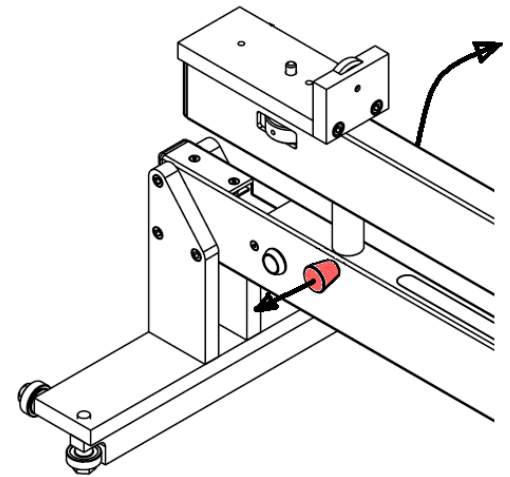
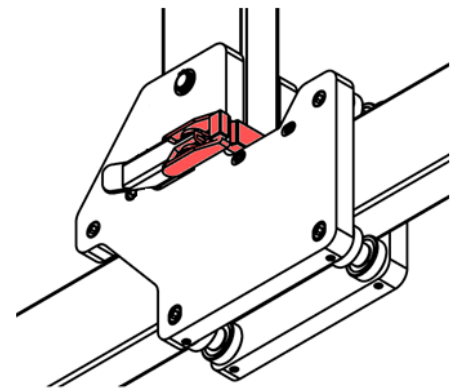

Figure 1
Figure 2
1. To release the vertical beam, pull the lever towards you (See Figure 1). Lift the vertical beam until it rests against the stop. Release the toggle latches and fasten securely to the vertical beam (shown in Figure 2).